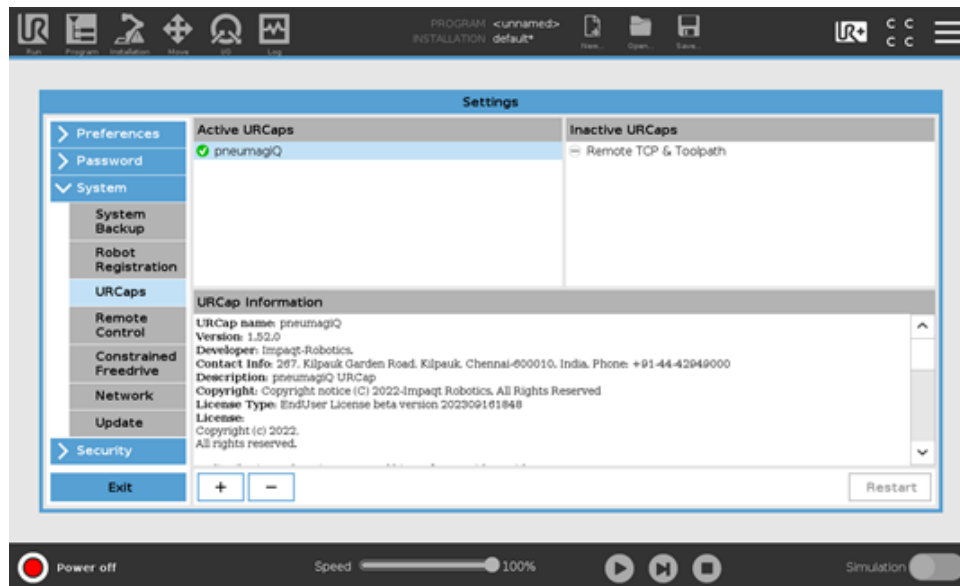

Figure 3: Ensure that there is a green check mark next to *pneumagiQ*
6. Once the URCap is installed, ensure that there is a green check mark next to pneumagiQ in the Active URCaps section as shown in Figure 3. (Same for all the URCaps)